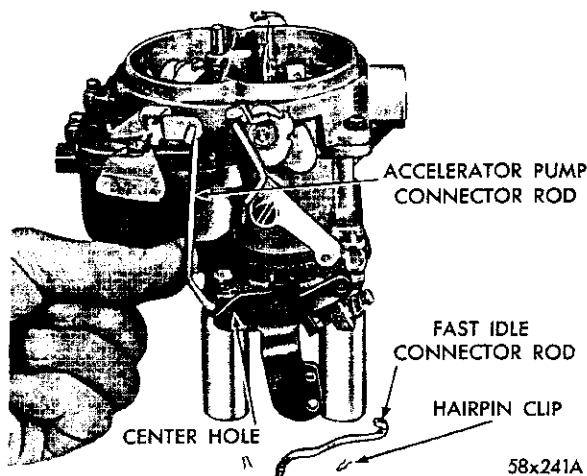
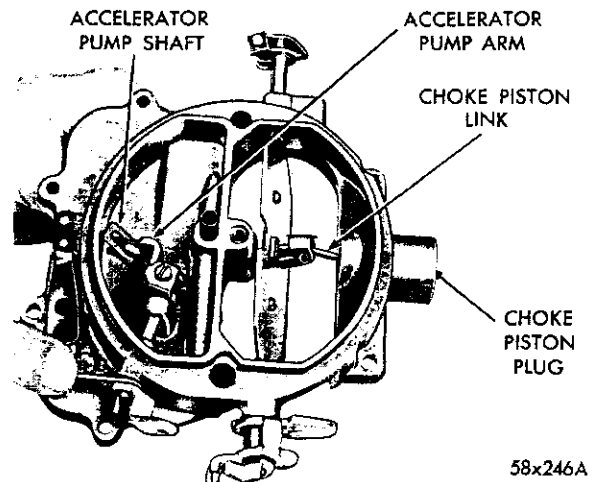

Fig. 4—Removing Fast Idle and Pump Rods
Fig. 5—Removing the Accelerator Pump
(1) Insert three Tool T109-287S and one Tool T109-288S elevating legs through the carburetor throttle body stud holes. (These tools are used to protect the throttle valves from damage and to provide a suitable base for working.)
(2) Remove the hairpin clip and disengage the fast idle connector rod from the throttle and fast idle levers.
(3) Remove the hairpin clip and disengage the accelerator pump rod from the throttle lever and the pump rocker arm, as shown in Figure 4.
(4) Remove the air horn retaining screws and lift air horn straight up and away from the main body. Discard the gasket (2 screws recessed).
(5) Disengage the accelerator pump plunger from the accelerator pump arm by pushing up on bottom of plunger and sliding plunger shaft off hook, as shown in Figure 5. Slide plunger out of air horn and remove the compression spring and seat.